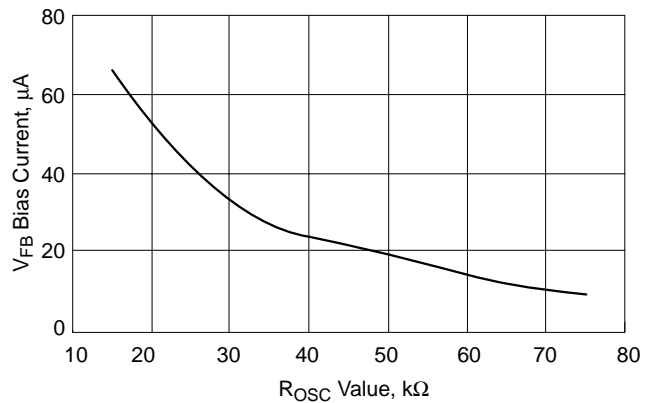

Figure 4. V_{FB} Bias Current vs. R_{osc} Value
- The V_{FB} Bias Current changes with the value of R_{OSC} per Figure 4.
To set the no–load positioning a resistor (R9) is placed between the output voltage and V_{FB} pin. The V_{FB} bias current will develop a voltage across the resistor to decrease the output voltage. The V_{FB} bias current is dependent on the value of R_{OSC} . See Figure 4 on the datasheet.